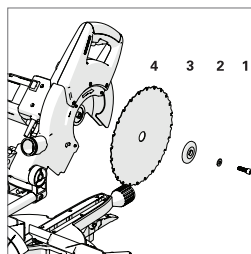

Fig. 40
- Using the supplied Hex Key, release the arbor screw and remove the washer and outer blade flange and the blade from the arbor. (Fig. 40)